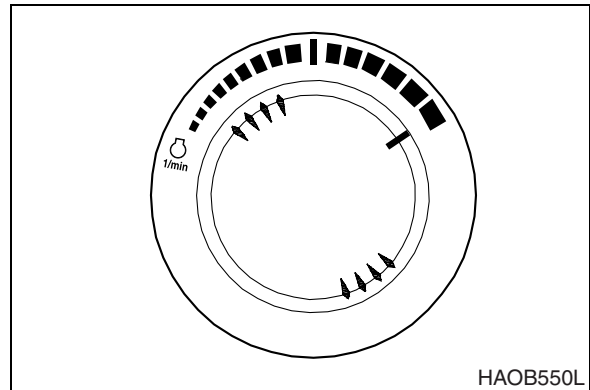

Figure 21
5. Set engine speed control dial to "HIGH IDLE" (Figure 21).